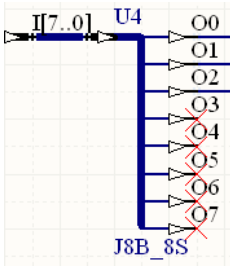

Figure 8. Mopping up loose ends with No ERC markers.
- To tidy up the design and also minimize compilation warnings, we can also place No ERC markers on each of the unused outputs of the Bus Joiner component (U4). From the **Wiring** toolbar, click the button to enter No ERC marker placement mode. Then position and place a marker on each of the unused pins, O3 to O7, as illustrated in Figure 8.